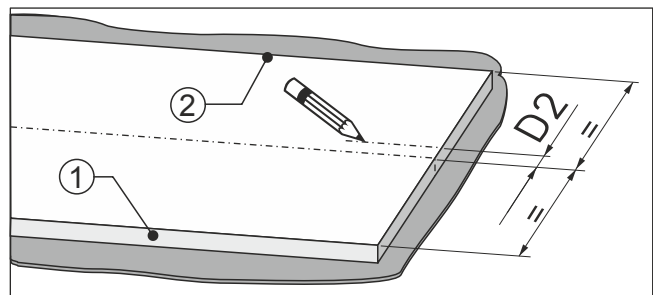

Fig. 96
- Measure dimensions Fig. 96 (D2) from the centre of the front of the unit towards the door hinge side Fig. 96 (2).